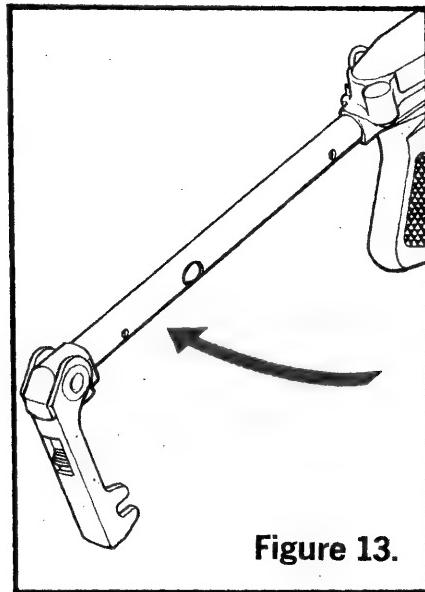

Figure 13.
2. Swing the Stock Tube Assembly to the rear until it locks in its opened position (See Figure 13).